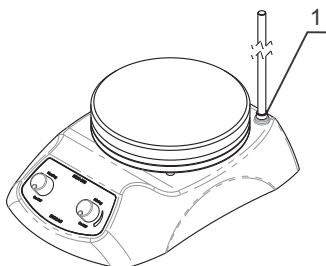

Fig. 1 Stand installation
- Remove the screw on the fixing socket at the stirrer back (fig. 1/1) and retain for future.